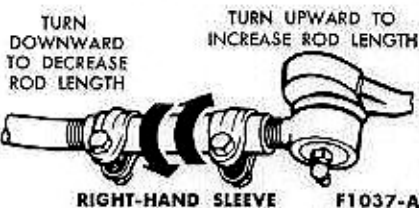

FIG. 5—Spindle Connecting Rod Adjustments
2. Adjust toe-in. If the steering wheel spokes are in their normal position, lengthen or shorten both rods equally to obtain correct toe-in (Fig. 5). If the steering wheel spokes are not in their normal position, make the necessary rod adjustments to obtain correct toe-in and steering wheel spoke alignment (Fig. 6).